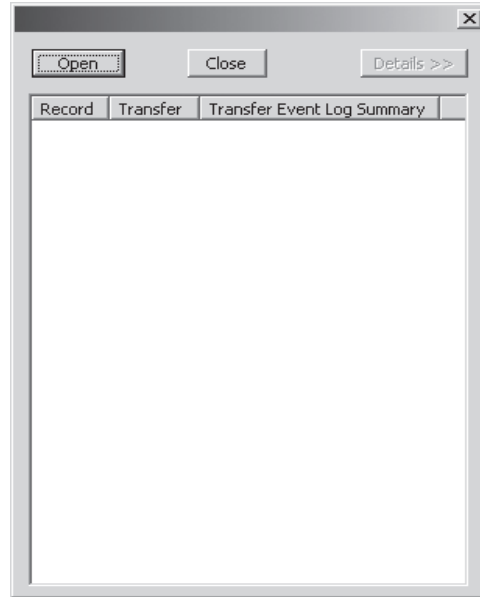

Figure 3-22 Transfer Event Log Viewer
1. From the ISScom Main Screen menu select **System/Transfer Event Log/View**. ISScom will display the Transfer Event Log Viewer screen (Figure 3-22).